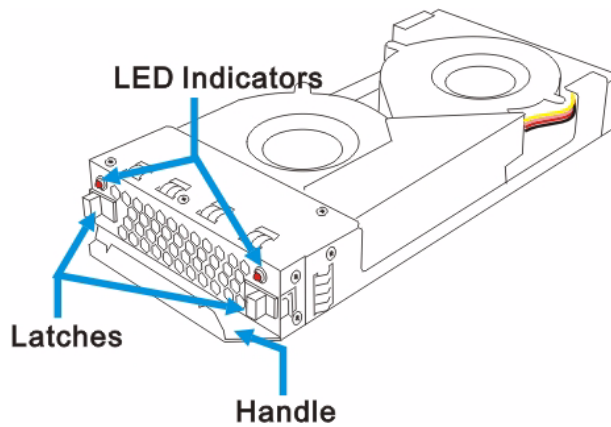

Fig. 2.12 Cooling Module
The RAID subsystem is equipped with two (2) 1U, dual-fan, redundant, hot-swappable cooling modules. They are installed in the cooling module slots located in the lower section of the PSU modules (see *Figure 2.12*.) The two (2) 9.7cm fans housed in each cooling module provide two (2) fan speeds. When the subsystem is running in normal ambient temperature, the fans operate at the lower speed. When the temperature reaches the temperature threshold, the fans automatically change to high speed to generate more cooling air from the front to the rear of the subsystem to extract the heat generated by the hard drives.